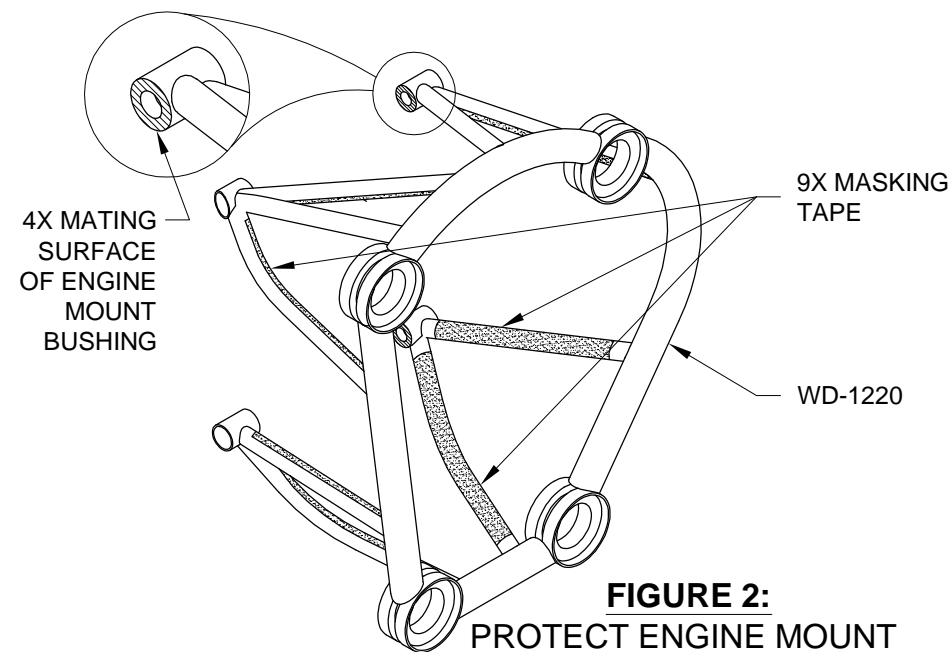

FIGURE 2:
Step 2: Remove the powder coating from the mating surface of the four WD-1220 Engine Mount Ring bushings. See Figure 2 detail view.